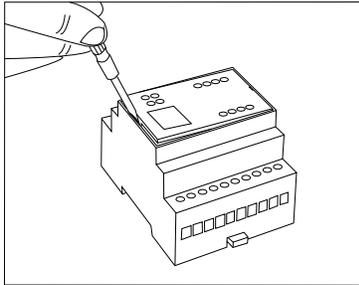

Figure 7.1.1
- Remove the cover with screwdriver (see the *Figure 7.1.1*).